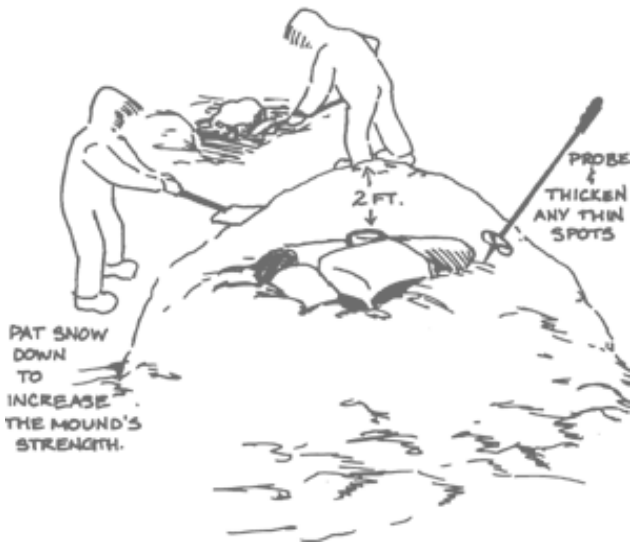

Figure 11-6: Buried equipment pile.
2. Standing well away from the equipment pile, shovel snow onto the center, burying the equipment. To increase the mound's strength, pat the snow down as you proceed. The buried equipment must have a minimum of 2 feet of consolidated snow covering it. Probe all around the mound with an ice axe or ski pole and shovel snow on any thin spots. (See figure 11-6).